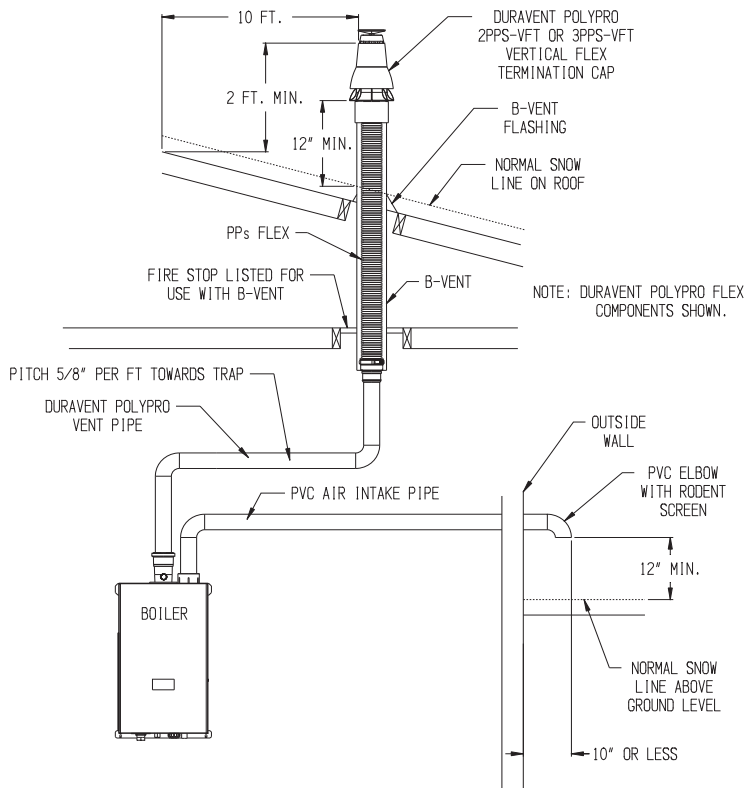

FIGURE 7.23: SPLIT VENT SYSTEM (FLEX IN B-VENT CHASE)(VENT OPTIONS 33-38)
### 4. Use of abandoned chimneys as a vent chase (Options 33-38) – Vent options 33-38 permit flexible polypropylene venting to be routed to the roof using an abandoned masonry or B- vent chimney. In these applications combustion air is drawn horizontally from a wall terminal. See Figure 7.23 or 7.24. When using one of these vent options, observe the following requirements:
*Example: A 100MBH model is to be installed as using Vent Option 34 in a masonry chimney as shown in Figure 7.23. The following components are used:*